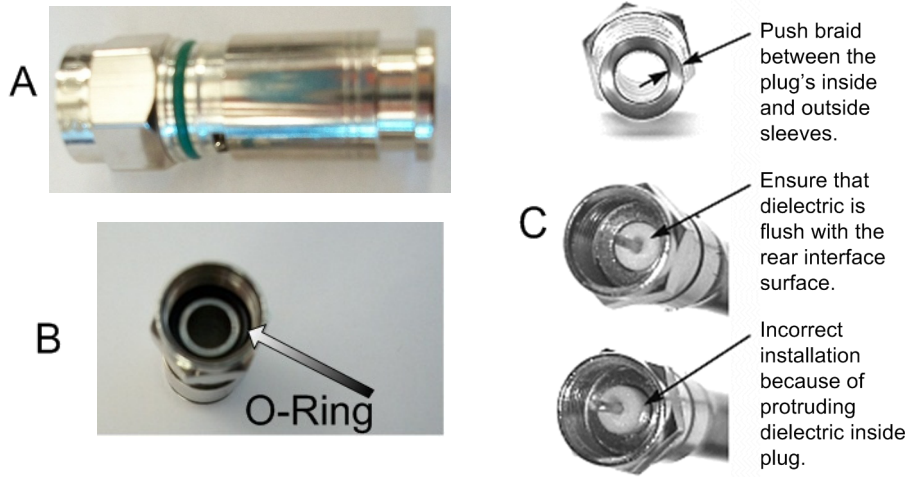

Figure C-4. Attaching the Compression fitting F-type Connector
8. Install the RG-6 connector compression sleeve, or mandrel, (top left (A) in Figure C-4 on page 68) over foil and underneath the braid. A good, weatherproof outdoor connector mandrel should have a visible O-Ring (bottom right (B) Figure C-4 on page 68).
NOTE: The white colored inner dielectric insulation should be flush with the inner rear surface of the connector. Refer to the picture on the right (C) in Figure C-4 on page 68 for an RG-6/RG-11 termination.